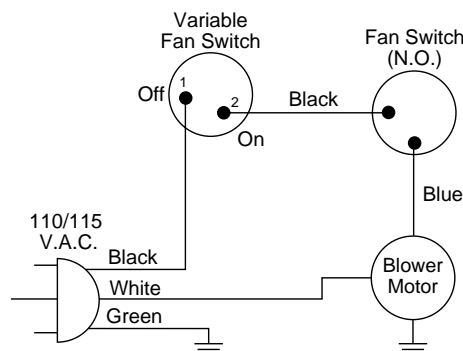

**Figure 28 - Blower Model BKT**
1. Place the green ground wire with ring terminal between the bottom hole on the thermal switch bracket and the top ear hole on the blower assembly. Insert the phillips screw into all three pieces and tighten securely (see Figure 28, page 18).
3. Place the blower against the lower rear wall of the firebox outer wrapper with the exhaust port directed upward and the thermodisc positioned up near the fireplace bottom. The thermodisc must be oriented near the fireplace bottom as shown in Figure 28 in order to sense temperature and properly operate. The blower will be held in position against the back wall by the magnets incorporated onto the blower housing (see Figure 28).